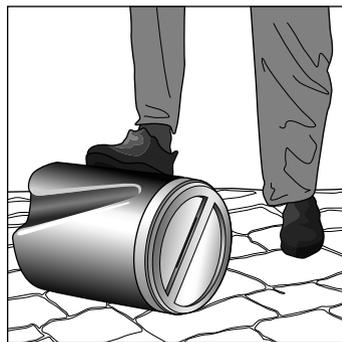

Figure 6-7:
- **Cretesheet:** Working on the same principle as the Odjob, the Cretesheet (see Figure 6-7) is a heavy tarp with handles on the corners. Empty your dry mix in the middle, add water, and then get a friend to help you pick up the tarp by all four corners. Shake the tarp to mix the ingredients; use it to pour the concrete into place.